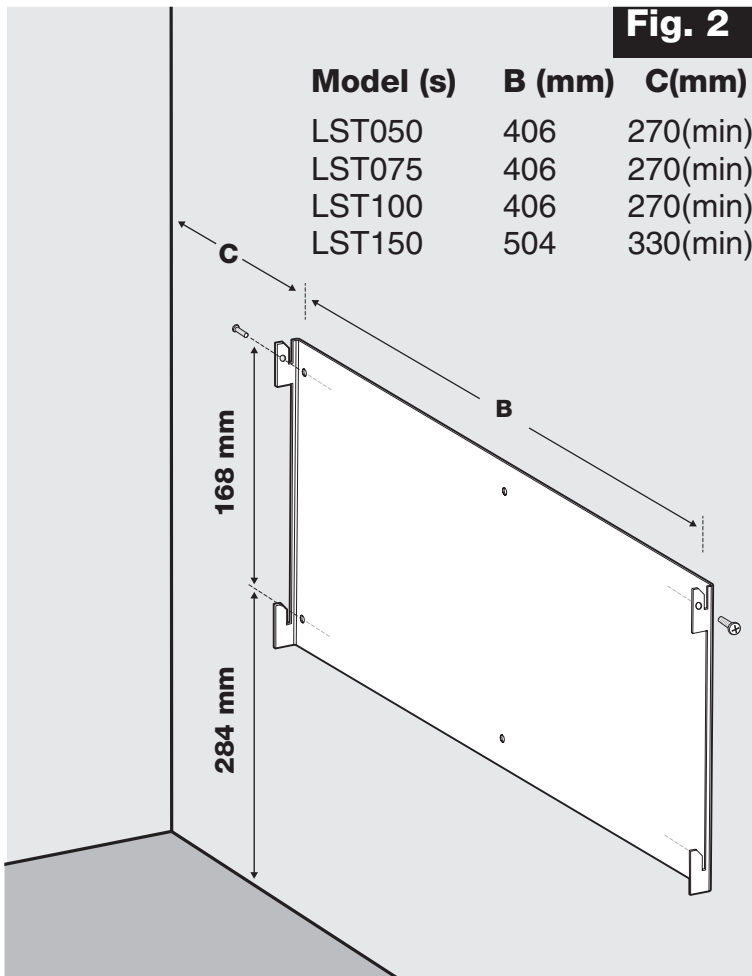
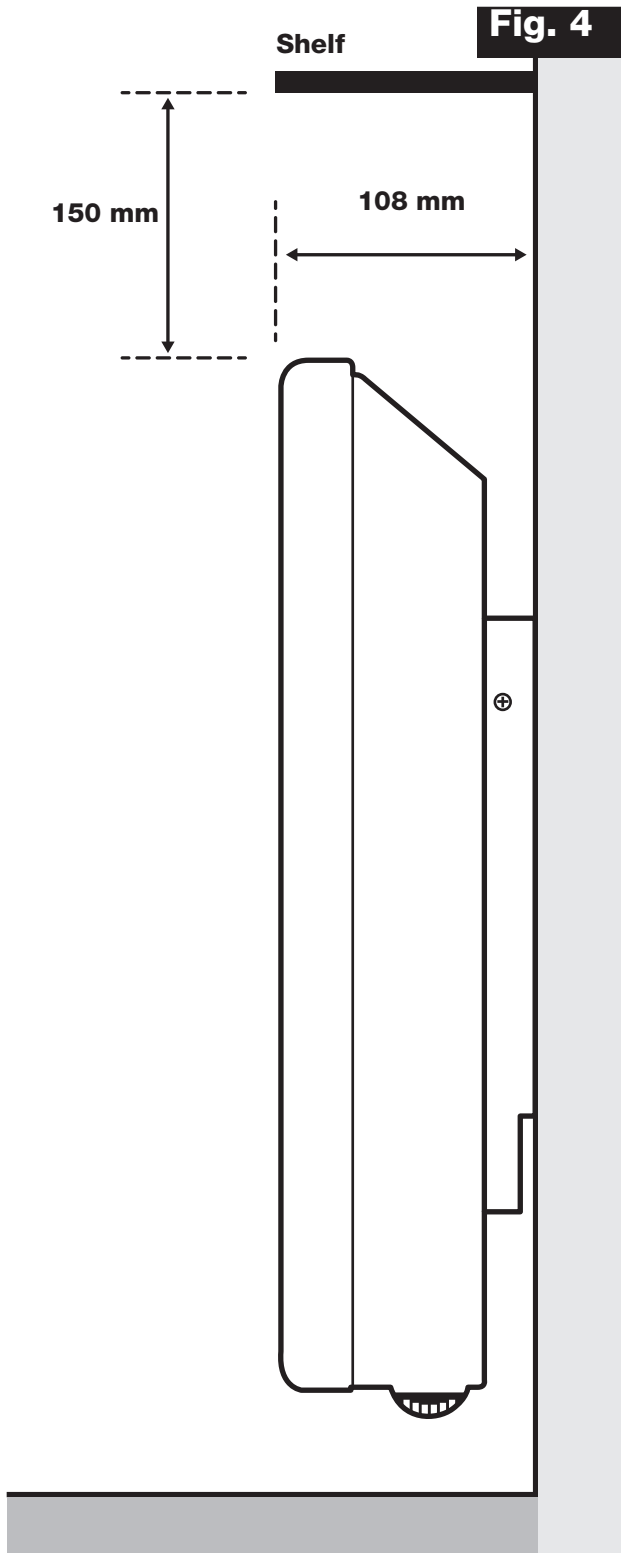
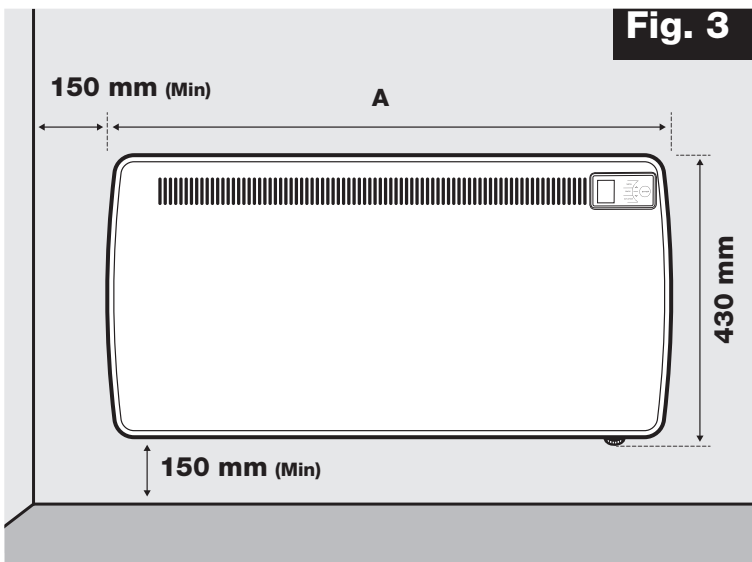

Fig. 2
Fig. 4
Fig. 3
The heater is designed for wall mounting using the wall bracket supplied. It should only be operated when in the upright position as shown - see **Fig. 3** and **Fig. 4**. All models are splash proof to IP24 standard and may be used in bathrooms, however not in the immediate vicinity of baths, showers, water connections, wash basins or swimming pools. Before connecting the heater check that the supply voltage is the same as that stated on the heater.
IMPORTANT – The wall bracket supplied with the appliance must be used. The heater should be positioned observing the minimum clearances stated around the heater - see **Fig. 2, Fig. 3** and **Fig. 4**.
2. Fix the wall bracket securely to the wall through the four screw holes provided referring to dimension A **Fig 2**.
see Fig. 3